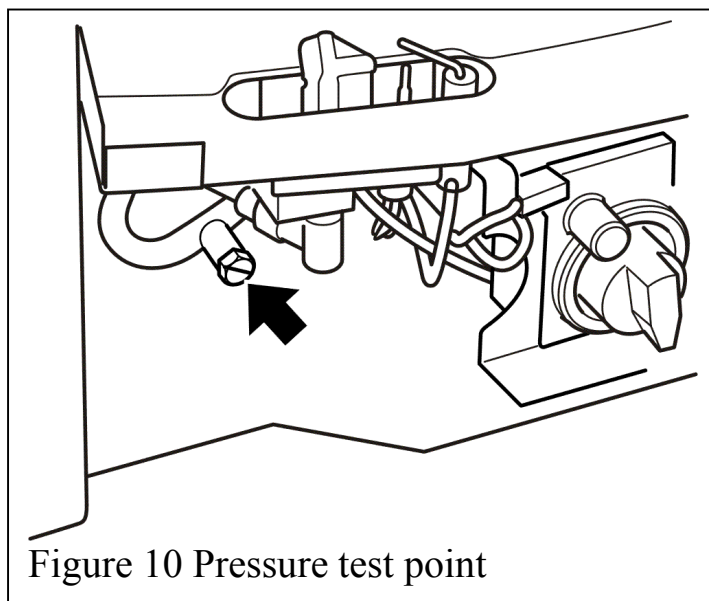

Figure 10 Pressure test point
1. Attach a pressure gauge to the pressure test point (see figure 10).